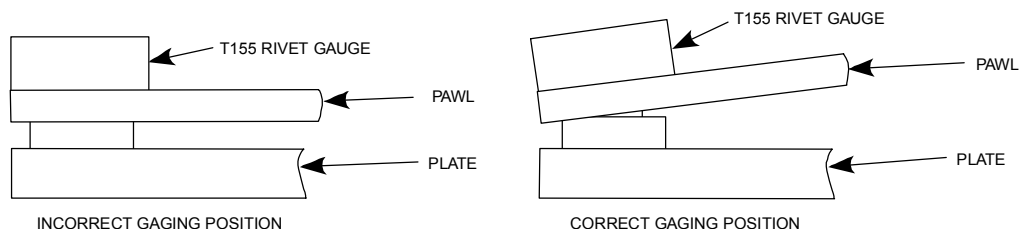

Figure 8.3B
7. Align the outer edge of the pawl with the outer edge of the impulse coupling plate. Lift the inner edge of the pawl upward and push the pawl outward. If the inner edge of the pawl is not lifted when the pawl is pushed outward, the gaging will not be accurate. (See Figure 8.3B.)